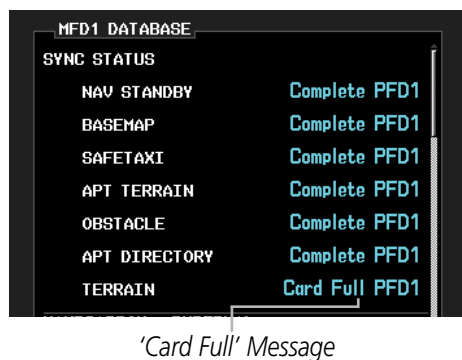

Figure B-9 Synchronization Error Message
If an error occurs during the synchronization, an error message will be displayed, followed by the affected display in the Sync Status section of the Database Window (Figure B-9). If a synchronization completes on one display, but an error occurs on the other, the error message will be displayed with the affected display listed after it. When an error message (Table B-1) is displayed, the problem must be corrected before the synchronization can be completed. A power cycle is required to restart synchronization when 'Card Full' or 'Err' is shown.
- 8) Monitor the Sync Status in the Database Window. Wait for all databases to complete syncing, indicated by 'Complete' being displayed as seen in Figure B-9.